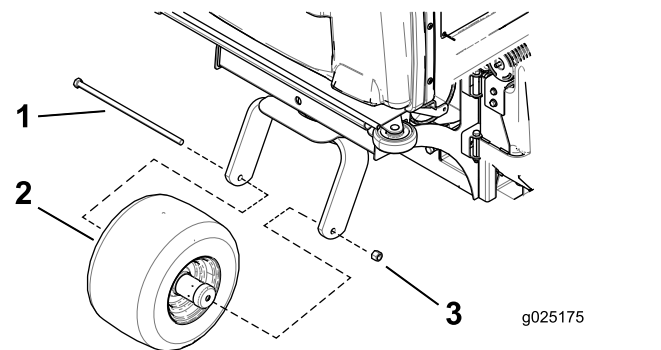

Figure 11
2. Remove the bolt holding the rear frame to the crate (Figure 11).
7. Install the rear caster wheel to the rear caster fork with a bolt (1/2 x 13 inches) and locknut (1/2 inch) As shown in Figure 11.